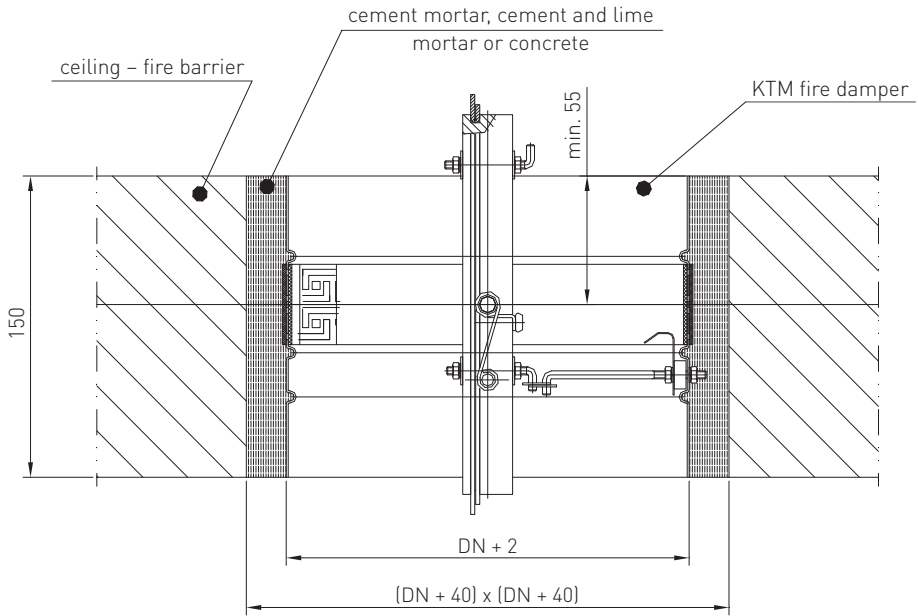

Figure 7. Installation of KTM fire damper (female coupling) in rigid ceiling partition.
#### Variant I (Figure 7. i 8.)
2. Put the fire damper into the installation opening, secure with hangers and keep the distance of not least than 55 mm of the flap axis from bottom or top surface of the ceiling (optimally in the ceiling axis) [see fig. 7 and 8].